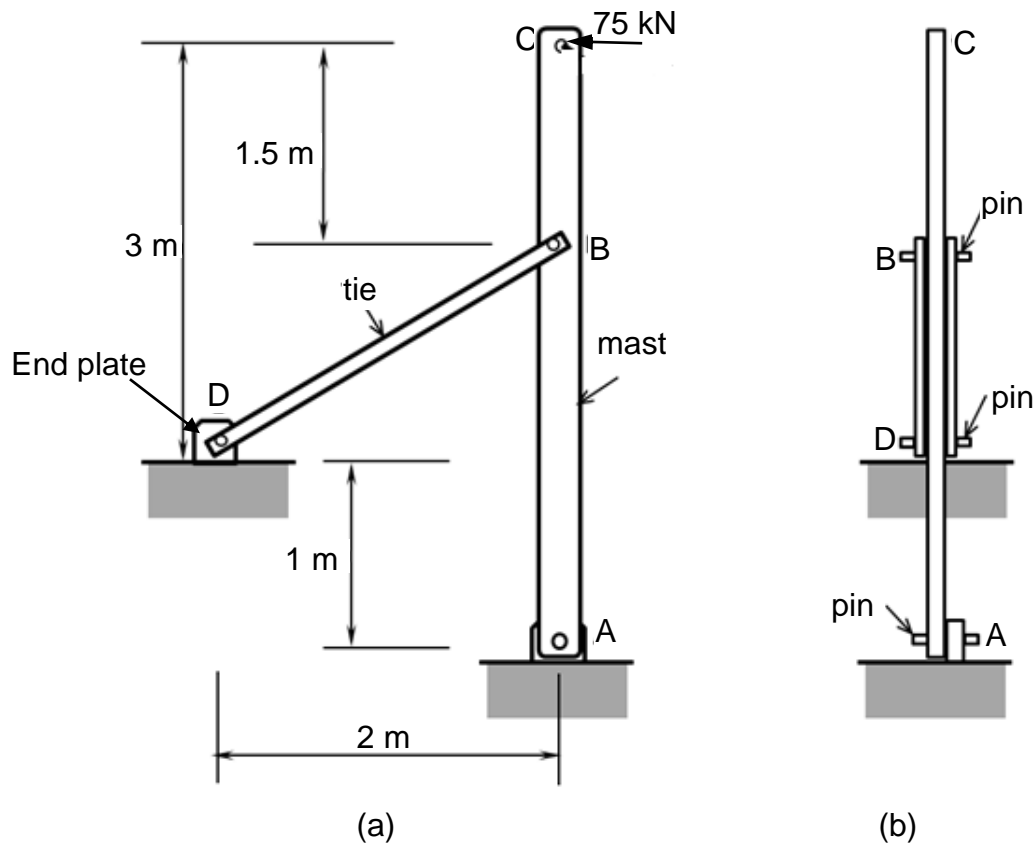

Figure 1
1. The mast in **Figure 1** is connected to a pin support at A. A pair of ties are connected to the vertical mast through a pin connection at B. Each of the tie has rectangular cross section of 75 mm×12.5 mm. End D of the ties is pin connected to a support at D. The thickness of the end plate at D is 20 mm. Details of pinned connection at A, B and D are also shown in **Figure 1**. Diameters of pins at A, B and D are respectively 25 mm, 17.5 mm and 20 mm. A horizontal load of 75 kN acts at end C of the mast.